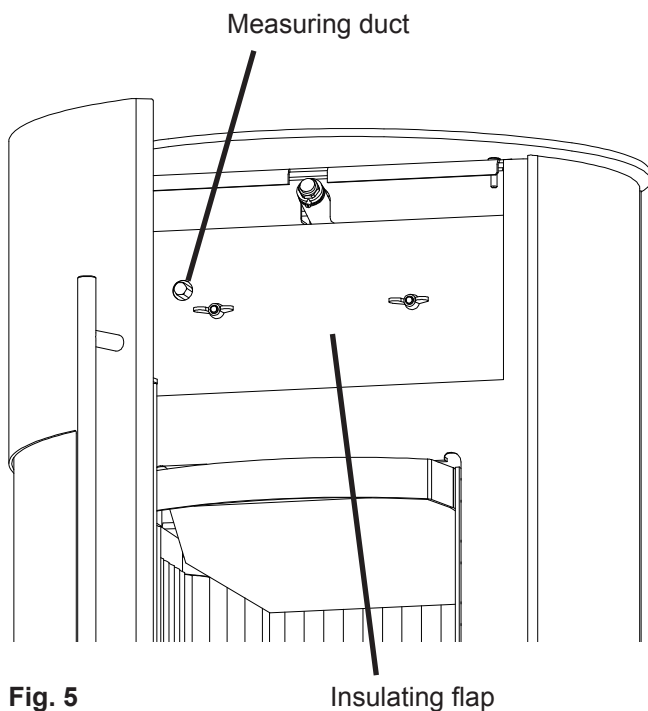

Fig. 5
- Unscrew the insulating flap above the combustion chamber opening (2 wing nut, Fig. 5).